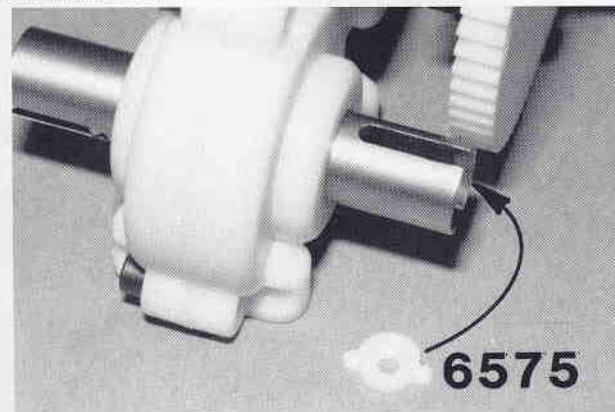

Fig. 100
□ **Figs. 100 & 101** Locate the #6575 diff thrust bolt cover we set aside in fig. 49. Install it on the right hand side with the flat side out, pushing it in until it bottoms out in the outdrive hub.